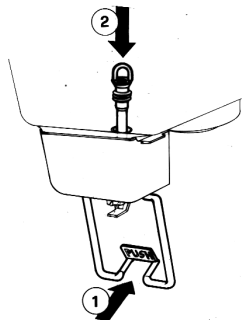

figure 10
- 2 - Push (1) the dispensing handle and insert (2) the pinch tube into its vertical seat in the bowl bottom (see figure 10).